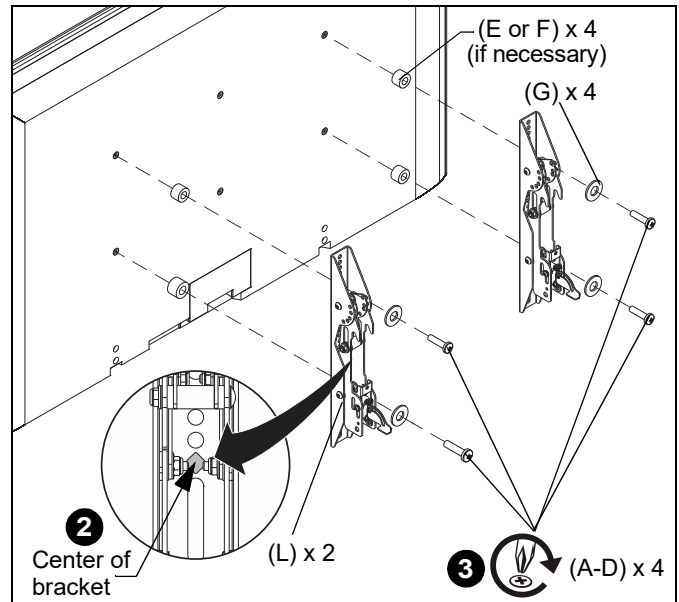

Figure 11
- Align the center of the interface bracket (L) with center of screen. (See Figure 11)
- Select correct screws, spacers (if necessary) and universal washers from the hardware bag (A-G) and attach brackets (L) to back of screen. (See Figure 11)